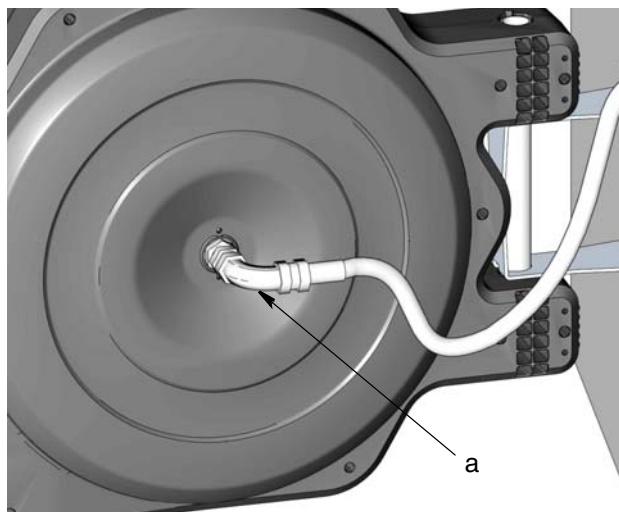

FIG. 26
9. Connect supply hose (a) to swivel (FIG. 26).